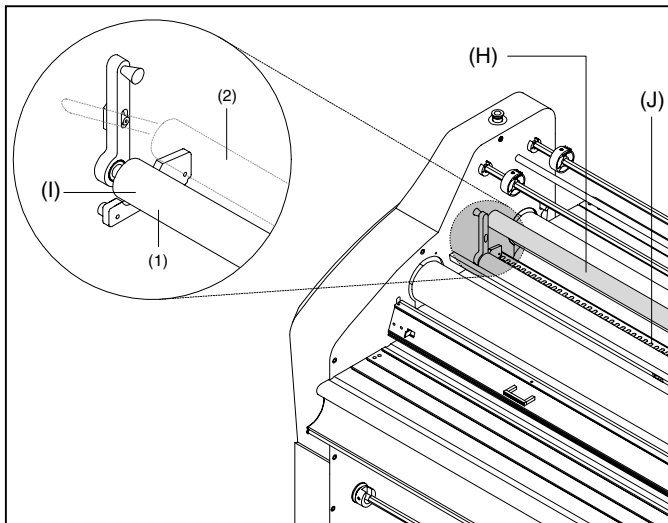

Fig. 17
H. IDLER BAR: (Figure 17) The idler bars, located near each heat roller, are used to direct the film to the heat roller nip.
I. CHILL IDLER: (Figure 17) Assist in the cooling process of the web material as it exits the heat rollers.
J. COOLING FANS: (Figure 17) Assist in the cooling process by pushing unheated air onto the web material as it exits the heated rollers. This feature can be controlled from the control panel.